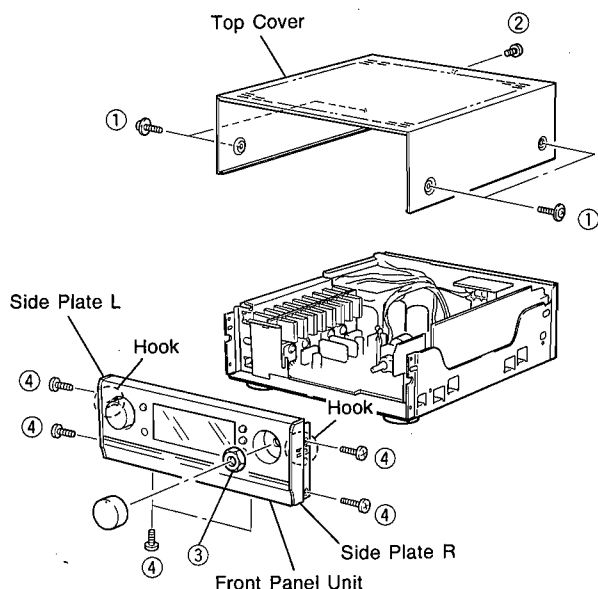

Fig. 1
Remove 4 screws (①) and 1 screw (②) in Fig. 1.
- Remove 1 nut (③) in Fig. 1.
- Remove 6 screws (④) in Fig. 1.
- Remove 2 hooks and pull the Front Panel Unit in Fig. 1.